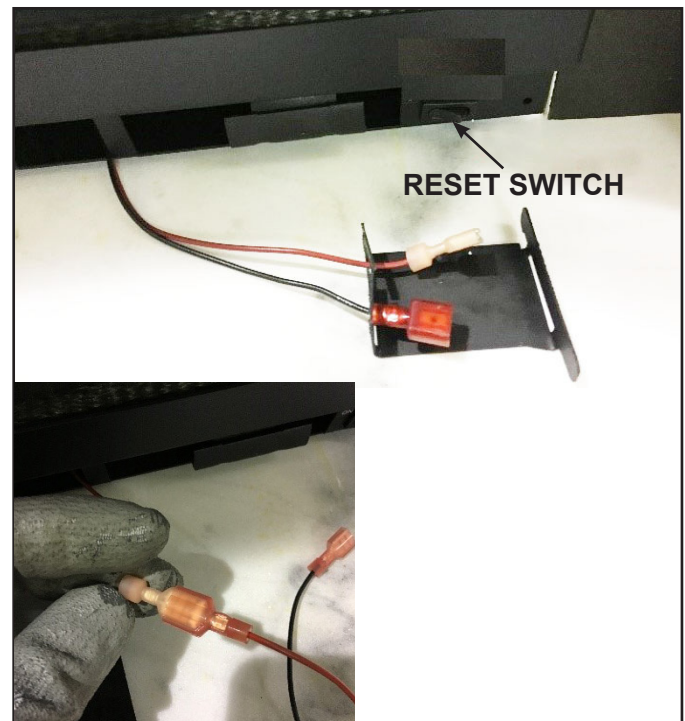

Figure 3.5
4. Connect battery tray wires to the battery pack. See Figure 3.5.